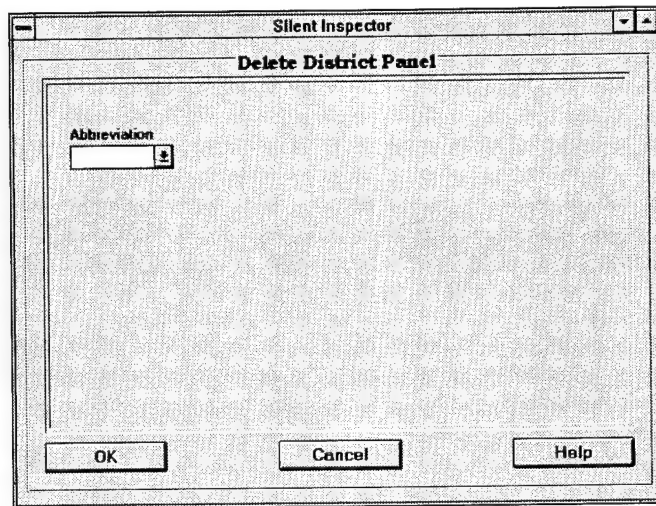

Figure 15. **Delete District Panel** screen
- Click on **Delete** under the **District** menu, and the **Delete District Panel** screen (Figure 15) will appear.